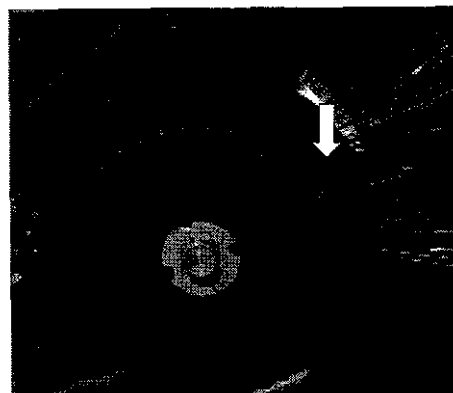

figure 17
4. Remove the chain guide plate (figure 17).